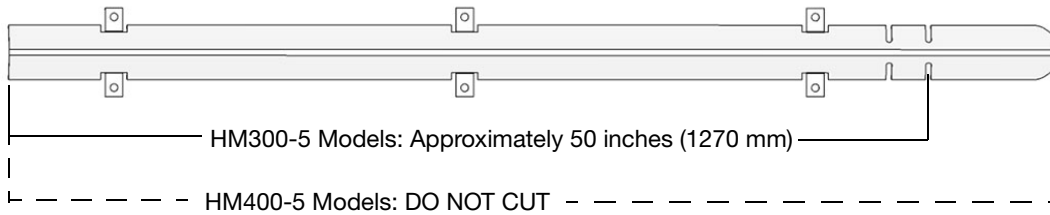

FIG. 15
1. Use a cutting tool to trim the Guards to a finished length of 50 inches (1270 mm) for the HM300-5 models as shown in FIG. 15. For HM400-5 models, **DO NOT CUT** the guards.